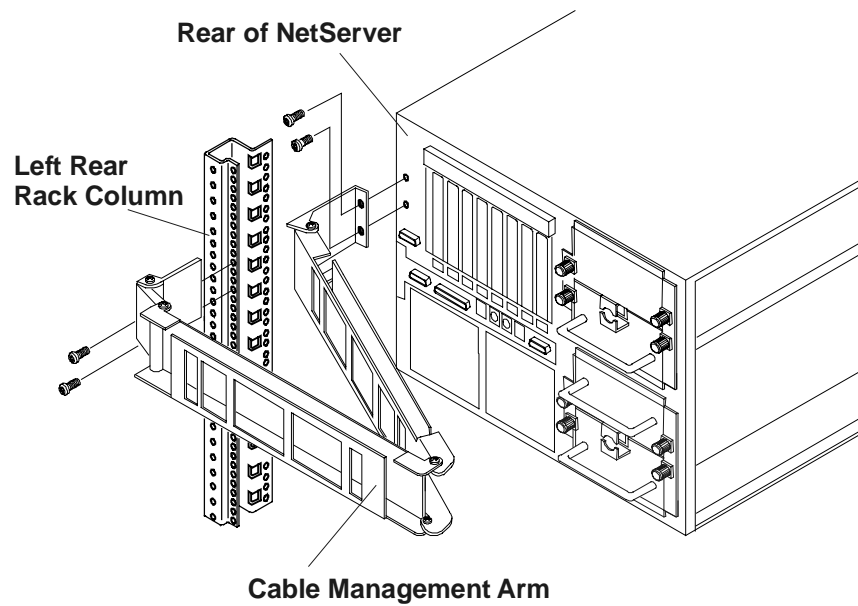

Figure 8-16. Attaching the Cable Management Arm
The Cable Management Arm for the HP NetServer LH 3000r can only be mounted on HP Systems racks. The HP NetServer Cable Management Arm allows the cables, including the power cord, to move in and out with the HP NetServer chassis on its slides without being accidentally disconnected. See Figure 8-16.
2. At the rear of the NetServer, place rack nuts on the left column in the 17th and 18th holes above the baseline of the HP NetServer. See Figure 8-16.
4. Orient the cable management arm as shown in Figure 8-16.